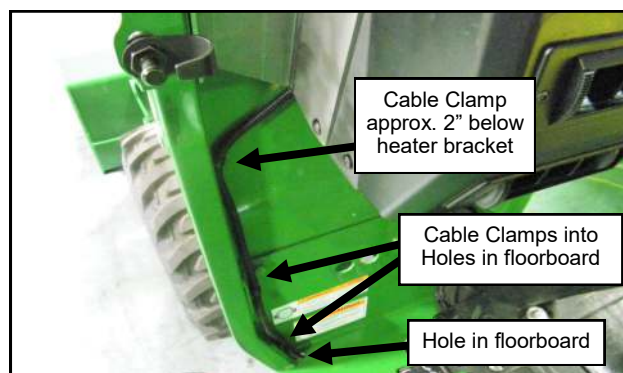

Fig. 16.6 (Attach Wire Harness to A-Pillar)
16.6 Thread the wiring harness through the hole in the floor board. See figure 16.6.
16.7 Taking up slack as you work your way down, secure the wiring harness to the A-pillar with p-clips and self-drilling screws. See figure 16.6. Clean up metal shavings afterward.